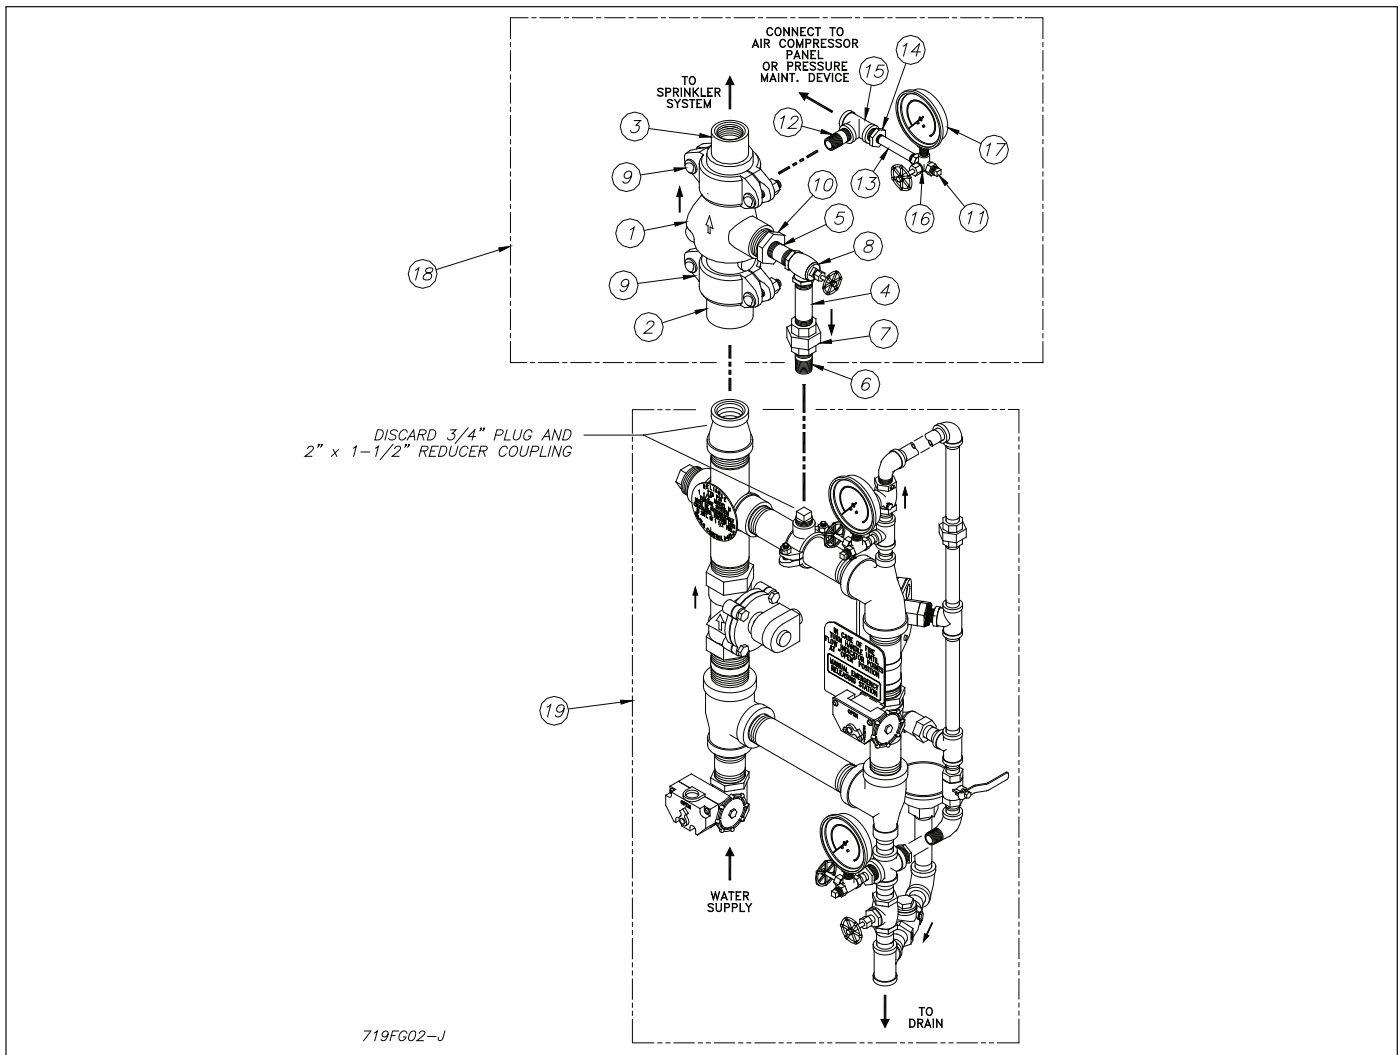

Figure 2 — Single Interlock Preaction Assembly
A Preaction Trim Kit is available to provide a bypass drain line and to attach the air or nitrogen supply required to supervise the preaction system at 2 psi (0,14 bar). This kit includes a UL Listed Reliable Model G Right Check Valve supplied with rigid grooved pipe couplings, as illustrated in Figure 2.
The automatic sprinklers, air compressor, releasing devices, electric releasing control equipment, fire detection devices, manual pull stations, and signaling devices which are utilized with the Reliable Single Interlock System must be UL and/or ULC listed, as applicable. The Single Interlock Preaction Assembly (Figure 2) and all interconnecting piping must be located in a readily visible and accessible location and in an area which can be maintained at a minimum temperature of 40°F (4°C). **NOTE:** HEAT TRACING IS NOT PERMITTED.
The Preaction Trim Kit (P/N 6501200112) consists of items 1 through 17. The illustrated (Figure 2) assembly has a convenient arrangement for draining the sprinkler system through the Model H Riser Assembly drain line. Assemble the Preaction Trim Kit using a suitable Teflon-based pipe thread sealant applied to each male thread. Assemble rigid couplings by first applying a thin coat of silicone or other lubricant that does not contain hydrocarbons to the lips and outside surfaces of the gasket. Position gaskets uniformly on the valve and adjacent reducers so that all grooves are exposed. Place coupling housings over gaskets and engage the housing keys in the grooves. Insert bolts and tighten nuts alternately until housing halves are drawn together uniformly.
The recommended sequence of installation is as follows (refer to Figures 2 and 3):